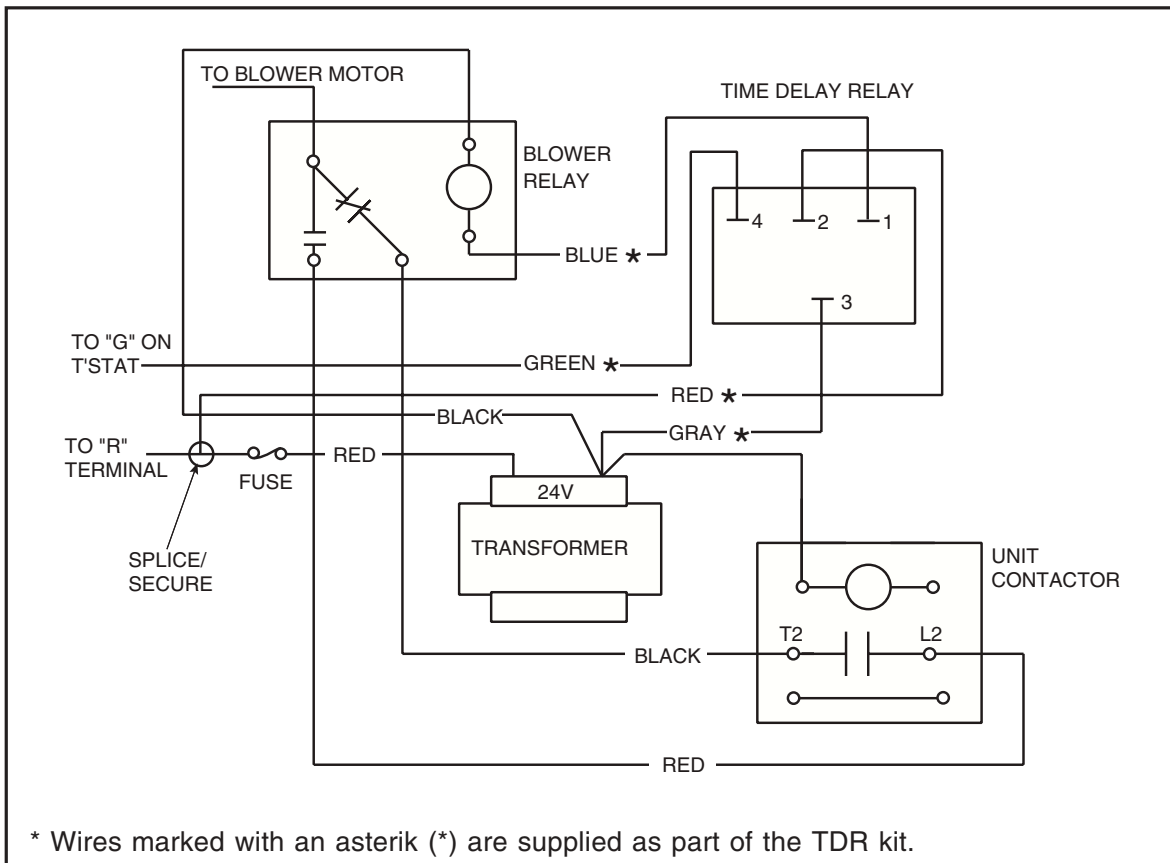

Figure 1. Wiring Diagram for Single Package Air Conditioners and Heat Pump Applications.
4. Make wiring connections per the applicable Wiring Diagrams provided with this kit. See Figures 1 - 4 on the following pages and follow the instructions for either the single package unit, the air handler or the electric furnace.